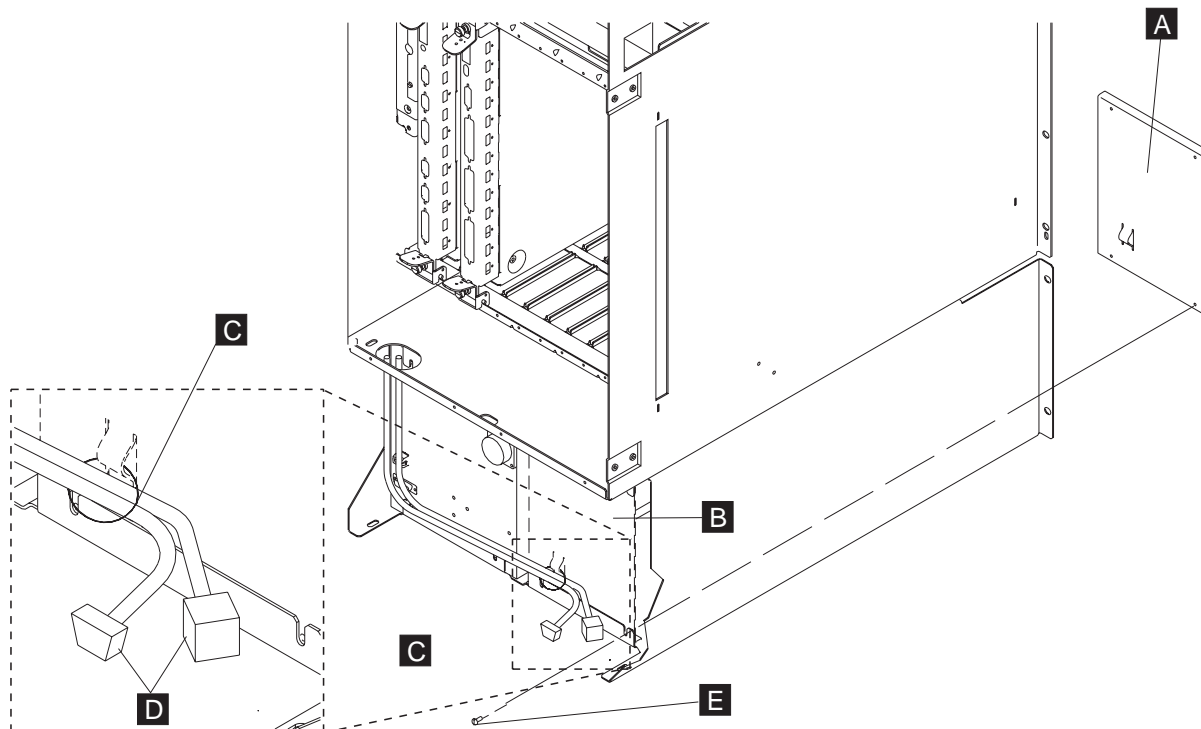

Figure 11-19. Power Location (Rear View)
1. Refer to Figure 11-19 on page 11-100, at the rear of the machine install dummy cover **A** (80G0633) in location **B** using four screws **E** (PN 4796653).